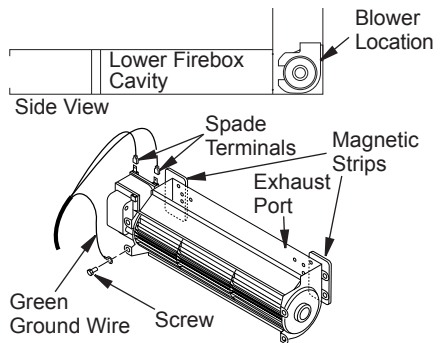

Figure 26 - Blower Model BK
1. Attach the power cord to blower motor by firmly pushing two female terminals at end of power cord onto two spade terminals on blower motor (see Figure 26).
2. Attach green ground wire from power cord to blower housing using screw provided (see Figure 26). Tighten screws securely.
3. Place blower against lower rear wall of firebox outer wrapper with exhaust port directed upward. The blower will fit inside back opening and be held in position against back wall by magnets (see Figure 26).